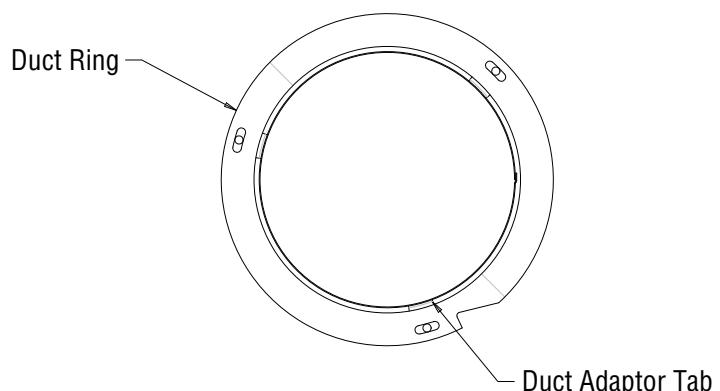

Figure 22 - Collar Slot and Adaptor Tab Alignment
4. Align the collar slots with the holes in the adaptor; fasten the collar and the adaptor to the top of the fireplace using 3 of the sheet metal screws provided. The collar will fit loosely around the openings (see Figure 22).